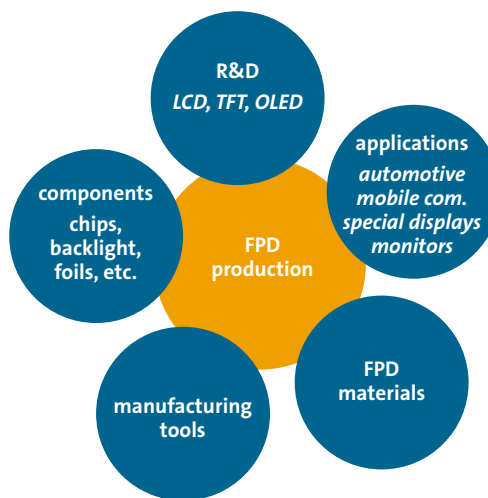

Fig. 2: The situation in Germany. Flat panel display production would link all players in the field. (Illustration courtesy of IMM)
- DFF links supply industries, flat panel display producers, end-product manufacturers and research centers in order to speak with “one voice” to public and politics (Fig. 2).